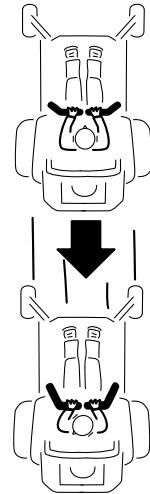

Figure 18
2. To go backward, look behind you and down as you slowly pull the motion control levers rearward (Figure 18).
To go straight, apply equal pressure to both motion control levers (Figure 18).